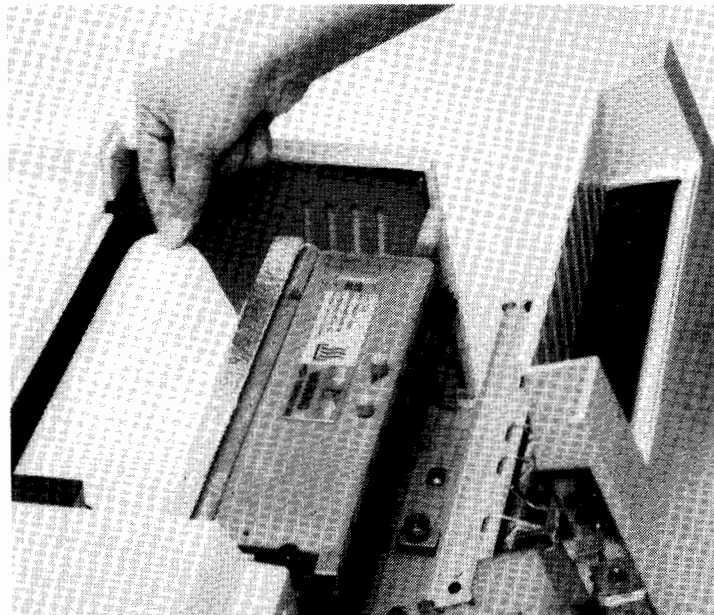

Figure 5-11. Removing Paper
- b. If the leading edge of the paper is seen, grasp this leading edge and gently pull it out. If the leading edge of the paper can not be seen, pull out the development drawer to the locking position (refer to figure 4-4) and then remove the paper (figure 5-11).